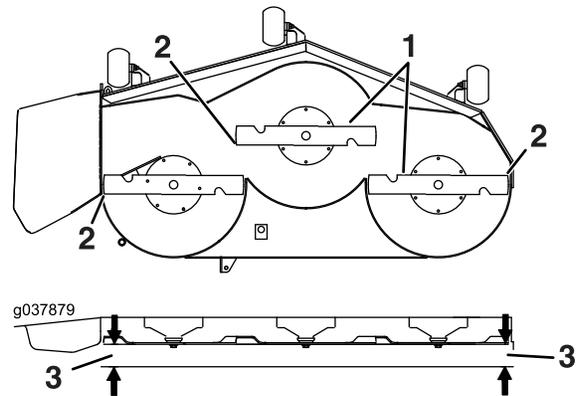

Figure 94
6. Measure between the blade tip and the flat surface (Figure 94). If both measurements are not within 5 mm (3/16 inch), adjust the leveling; continue with this procedure.
13. Carefully rotate the blades side to side (Figure 94).